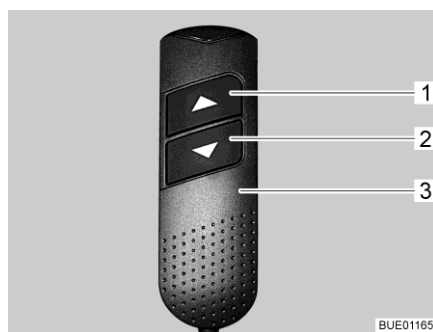

Fig. 110 Control unit (pull-down bed)
- On the control unit (Fig. 110,3) press both arrow keys (Fig. 110,1 and 2) simultaneously and keep them pressed until the pull-down bed has moved fully down. Once the button is released, a beep sounds to confirm.
- On the control unit (Fig. 110,3), press the bottom arrow key (Fig. 110,2) and keep it pressed until the pull-down bed has moved down into its end position.
- On the control unit (Fig. 110,3), press the top arrow key (Fig. 110,1) and keep it pressed until the pull-down bed has moved up into its end position.
- Use the arrow keys (Fig. 110,1 or 2) to move the pull-down bed in the opposite direction.